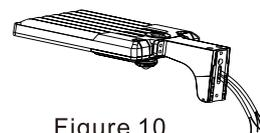

Figure 10
Step 2: Install the bracket on the fixture, tighten it. (Figure 10)